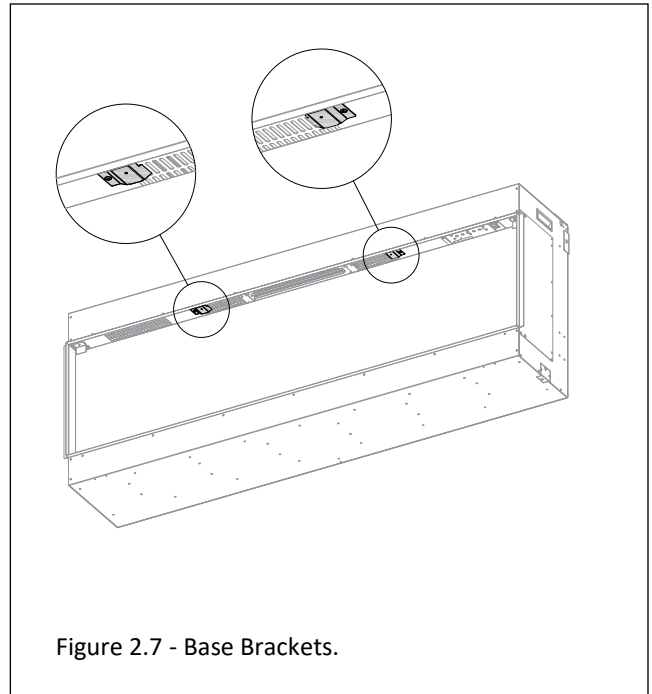

Figure 2.7 - Base Brackets.
2. Install the base bracket as shown in Figure 2.7. There is a small tab on the bracket where you will position this inside the air intake louver. The opposite side of the bracket will be attached with the screw removed in step 1.